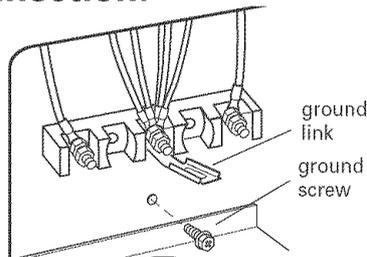

Figure 1
10. Remove the ground-link screw from the range frame. Save the ground screw. Bend up the ground link so that it does not contact the range. See Figures 1 and 2.